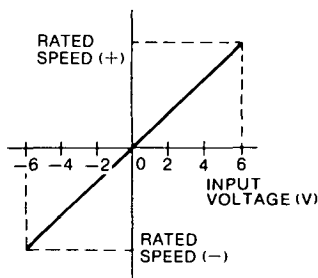
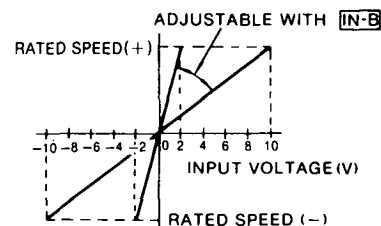

Fig. 4.7 Speed-Input Voltage Characteristics
Fig. 4.8 Speed-Input Voltage Characteristics when Auxiliary Input Terminals 1CN-⑭ and ⑮ are used.
Fig. 4.7 shows motor speed and input voltage curve when speed reference input terminals 1CN-⑫ and ⑬ are used. With auxiliary input terminals, 1CN-⑭ and ⑮, motor speed can be set to the rating by adjusting user constant Cn-03 IN-B as long as input voltage is within $\pm 2\text{V}$ to $\pm 10\text{V}$. See Fig. 4.8.